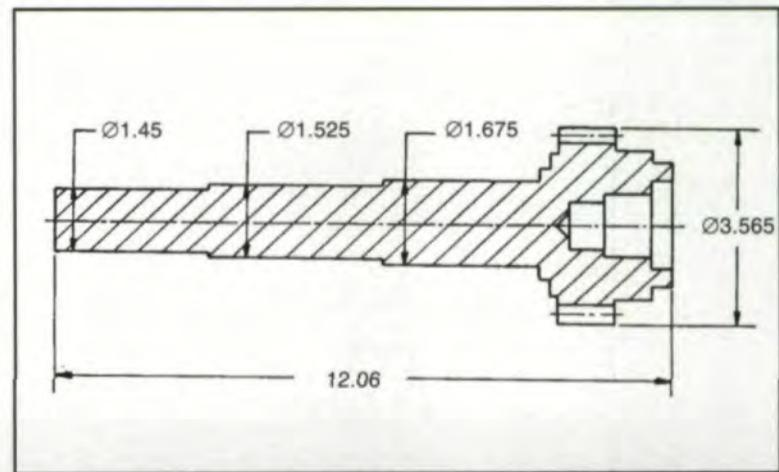

Fig. 6 - Transmission countershaft with a gear on one end of the shaft.
*Example 3.* Fig. 6 illustrates a transmission countershaft with a gear on one end of the shaft.